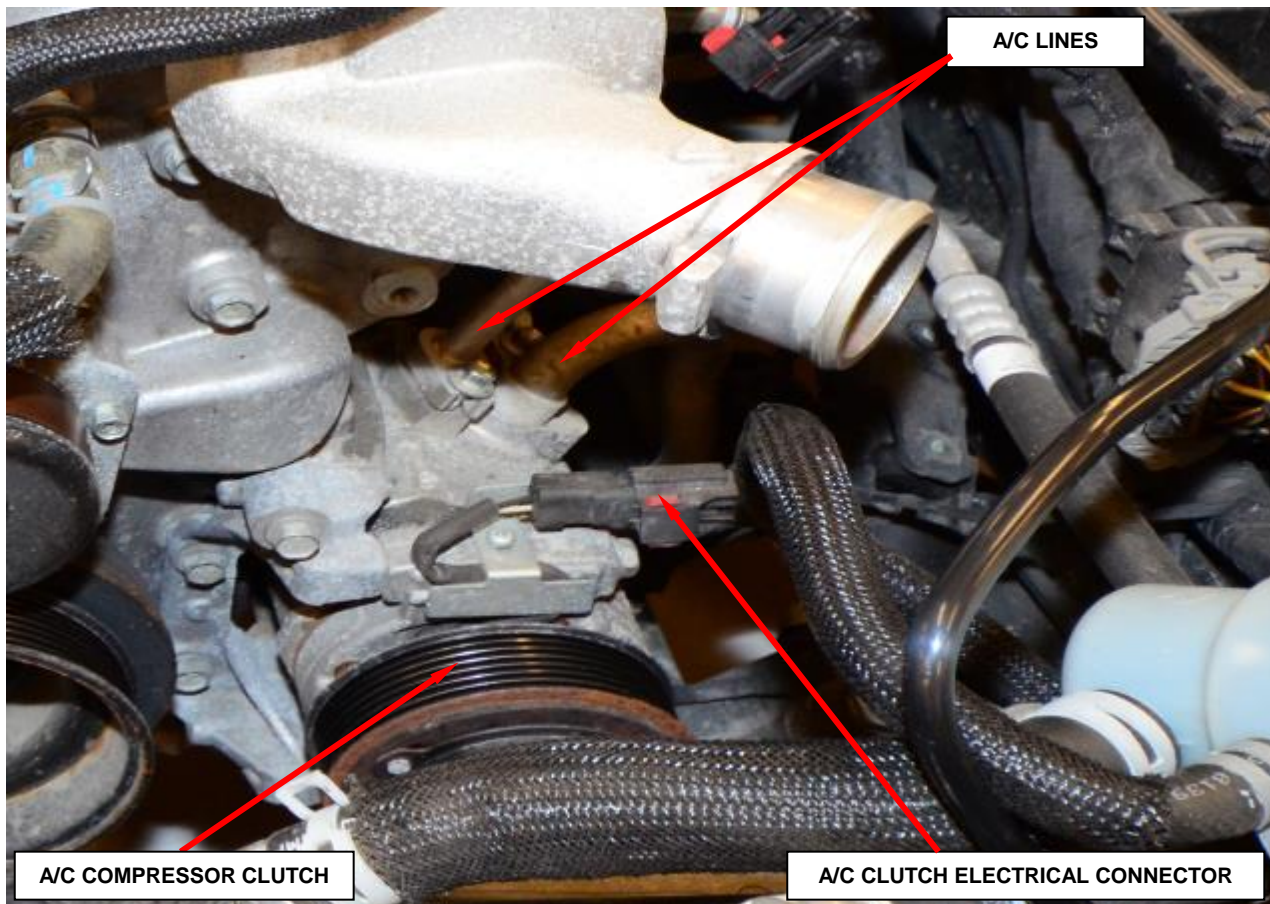

Figure 27 – A/C Lines
32. Disconnect the A/C clutch electrical connector (Figure 27).
33. Remove the bolts that secure the A/C suction line and the A/C discharge line to the A/C compressor. Plug the holes in A/C compressor and A/C lines to prevent debris from entering A/C system (Figure 27).